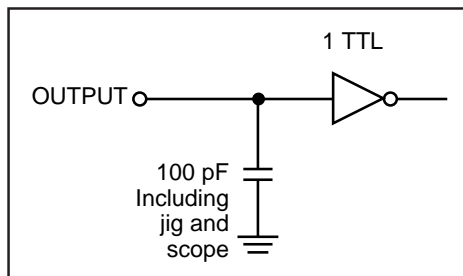

Figure 1
| Output Load | See Figures 1 and 2 |
- Test conditions assume signal transition times of 5 ns or less, timing reference levels of 1.5V, input pulse levels of 0.4V to 2.2V and output loading specified in Figure 1.
1. Test conditions assume signal transition times of 3 ns or less, timing reference levels of 1.3V, input pulse levels of 0.4V to 2.2V and output loading specified in Figure 1.